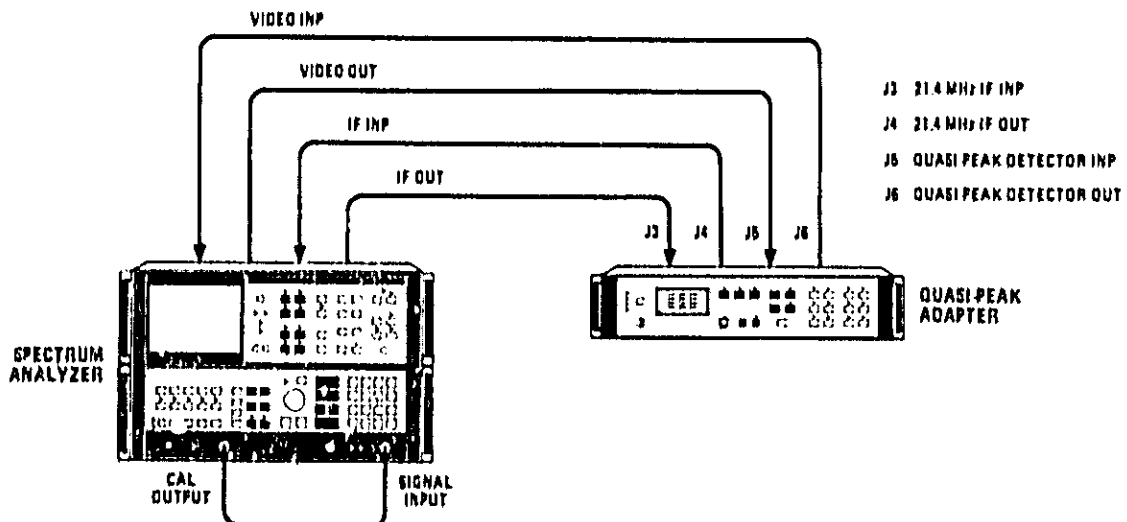

Figure 5-1. Amplitude Calibration and Adjustments Test Setup
1. Connect equipment as shown in Figure 5-1.
- 12. Connect quasi-peak adapter to spectrum analyzer as shown in Figure 5-1.
- 21. Reconnect cables as shown in Figure 5-1.